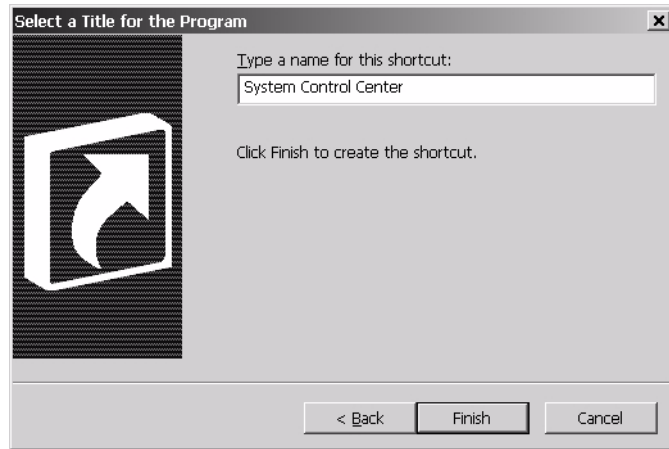

Figure 41: Entering the name of the shortcut
4. Type **System Control Center** in the field on the Select a Title for the Program dialog as shown in Figure 41.